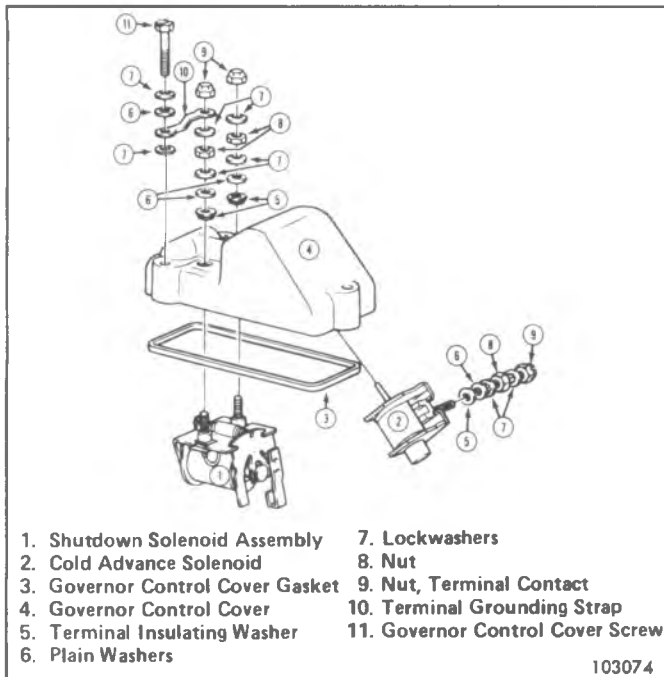

Fig. 6C-19--Solenoids
3. Disconnect the injection pump fuel solenoid and housing pressure cold advance wires and the fuel return pipe (Fig. 6C-16).